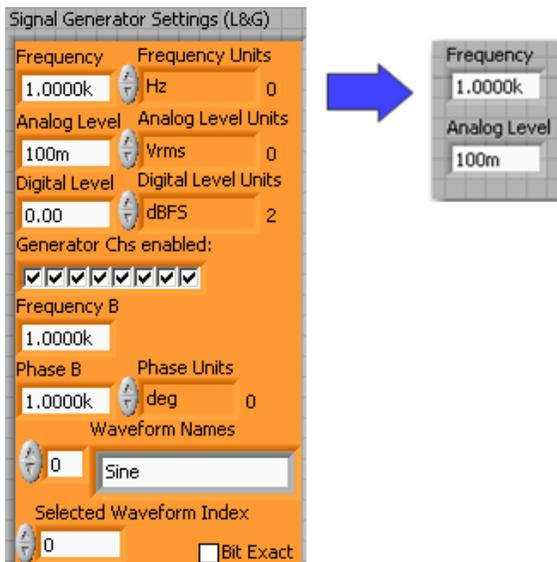
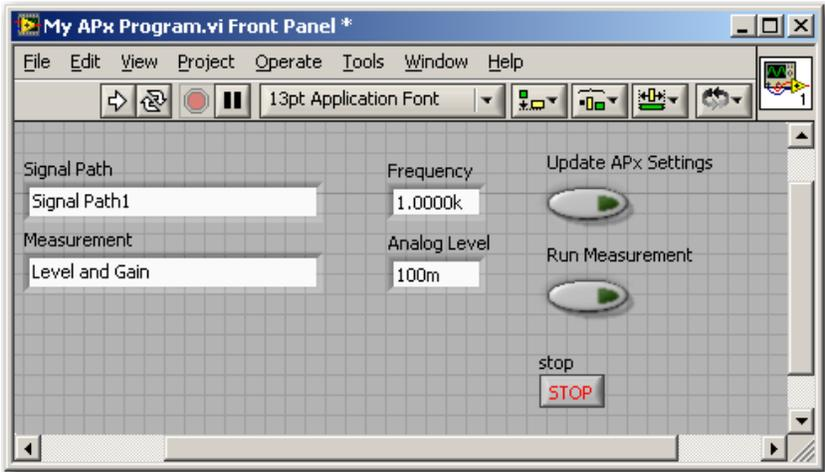

Figure 50
Figure 51
4. Delete the Level & Gain Config cluster, so that only the Frequency and Analog Level controls remain in its place (Figure 50 and Figure 51).